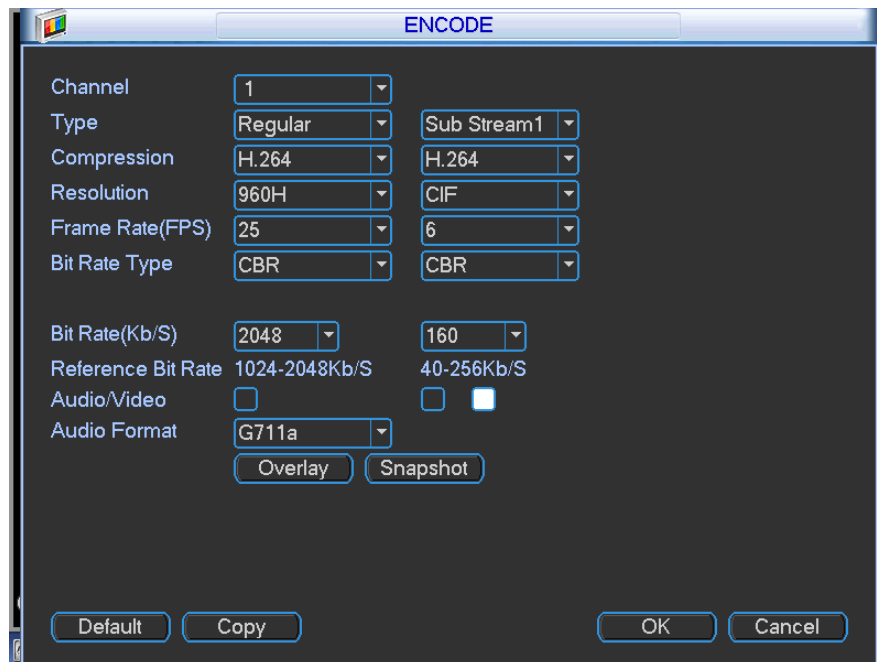
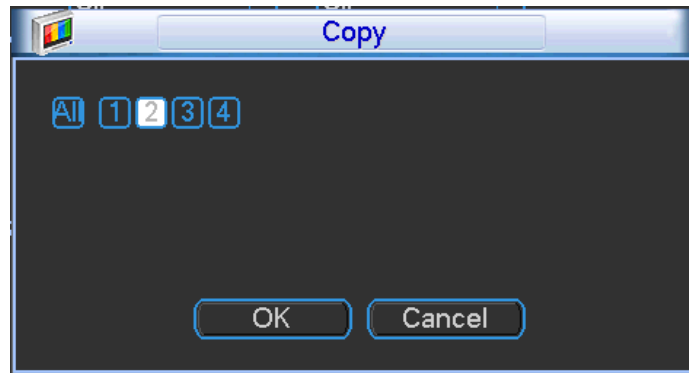

Figure 4-39
Figure 4-43
Encode setting includes the following items. See Figure 4-39.
- Copy: After you complete the setup, you can click Copy button to copy current setup to other channel(s). You can see an interface is shown as in Figure 4-43. You can see current channel number is grey. Please check the number to select the channel or you can check the box ALL. Please click the OK button in Figure 4-43 and Figure 4-39 respectively to complete the setup.